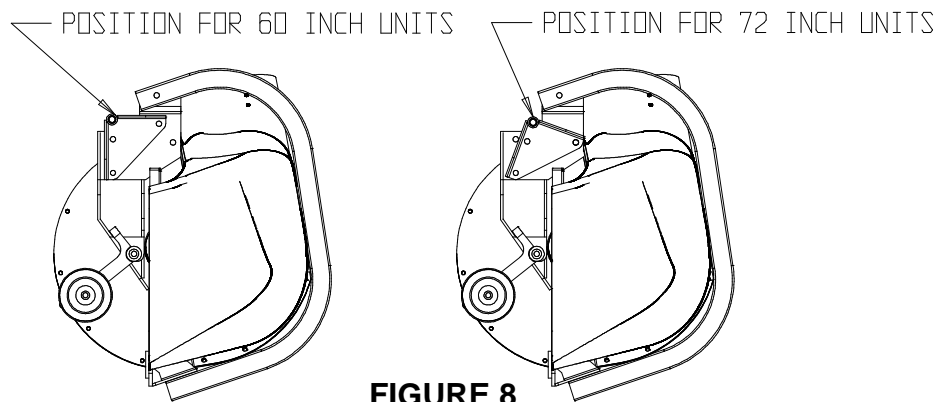

FIGURE 8
- 3.3.10 Install the mounting pin weldment (Item 18) to the blower assembly using the 3/8-16 x .75 screws (Item 28) and whizlock nuts (Item 24). Maximum deck clearance will be provided if the bolts are installed from below the mounting pin. The mount pin can be installed in two positions. For 60 inch decks the pin should be installed as far away from the bumper end as possible. For 72 inch decks that pin should be installed close to the bumper end. See Figure 8.